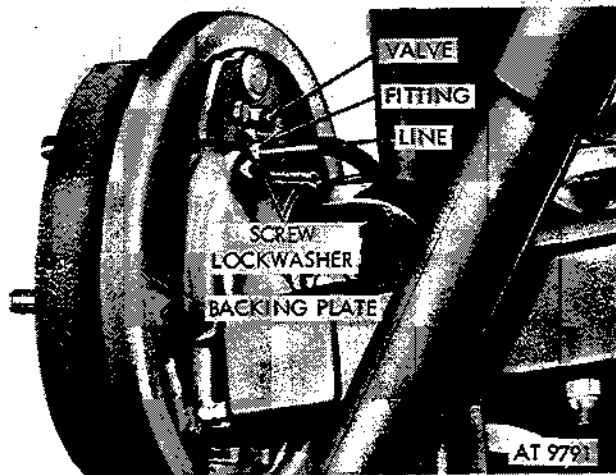

Figure 2-372. Remove wheel cylinder.
(3) Disconnect hydraulic brake line fitting from wheel cylinder. Remove bleeder valve (fig. 2-372).
(4) Remove brakehoe assemblies (para 2-173).
(5) Remove two screw and lockwasher assemblies securing wheel cylinder assembly to backing plate (fig. 2-372).